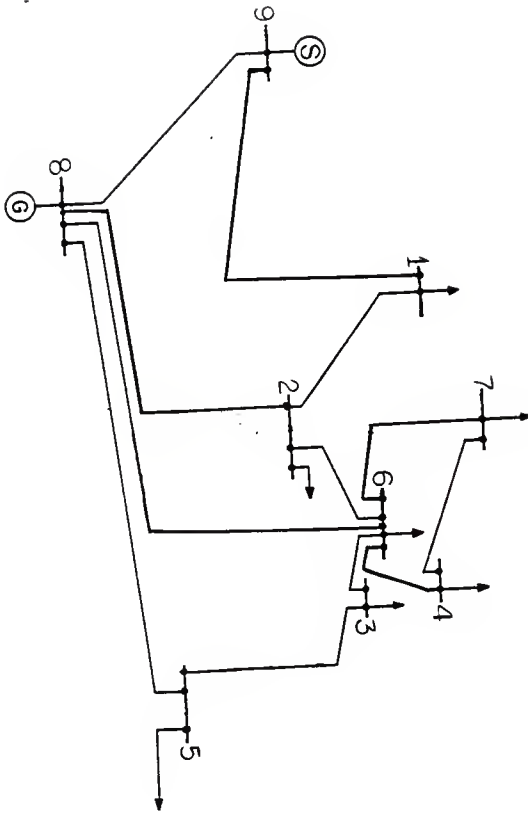

Figure 7: Power System # 4.
4. Figure 7 shows the electric power system to be analyzed. Values of real power (P), reactive power (Q), voltage magnitude (V), voltage angle (θ) at each bus, and line impedances are given in Table 7.